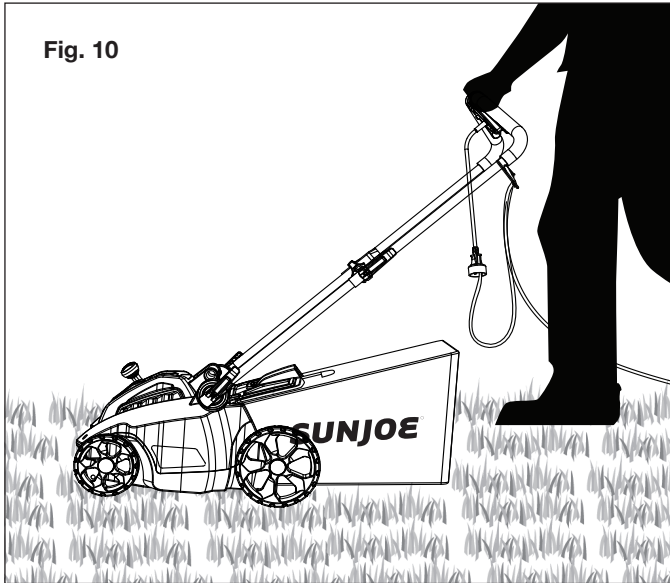

Fig. 10
6. Let the motor get up to speed, gently lowering the lawn mower down into the cutting position and start mowing (Fig. 10).